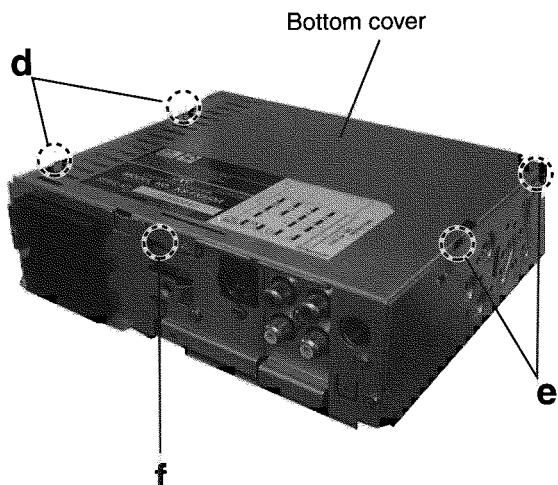

Fig. 5
■ Removing the bottom cover (See Fig.5)
■ Removing the load arm (See Fig.5)